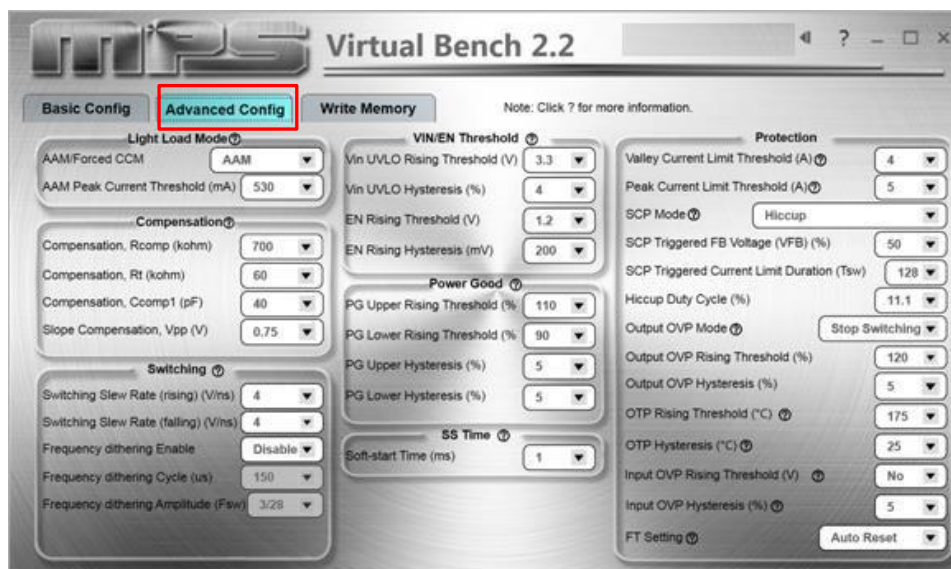

Figure 9: Values from I2C Shown in Table
- Find the item you want to change and write or select the desired value from the drop-down menu (see Figure 9).